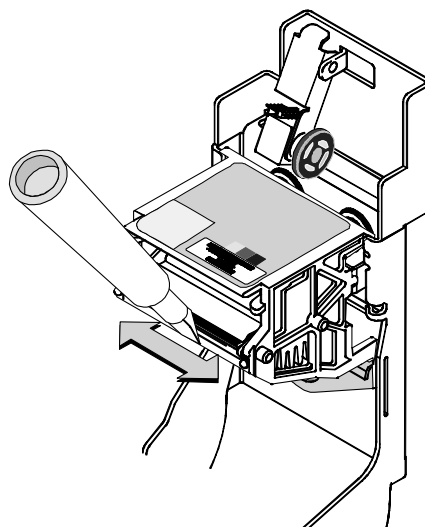

Figure 4-9: Clean the printing surface of the printhead
- 4 Using gentle pressure, move the cleaning pen back and forth along the full length of the printhead edge (see Figure 4-9). Be sure to clean the rounded edge of the printhead completely.
- 8 Clean the printhead. Move the cleaning pen back and forth along the length of the printhead edge. (See Figure 4-9 on page 4-10.) Be sure to completely clean the rounded edge of the printhead.